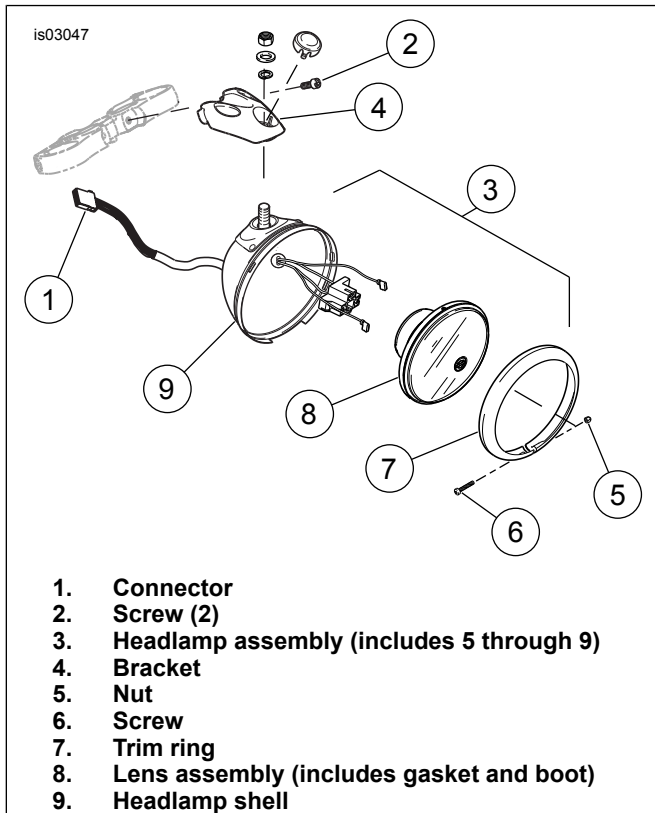

Figure 2. VRSCB Headlamp Assembly
3. See Figure 2. Disconnect headlamp connector (1) from vehicle wire harness.
4. Remove two screws (2), headlamp assembly (3), and headlamp mounting bracket (4) from upper bracket.
5. Remove nut (5), screw (6), and trim ring (7) from headlamp.
- Remove lens assembly (8) from headlamp shell (9). Save lens assembly for Billet Headlamp Shell Kit 67704-03 installation.